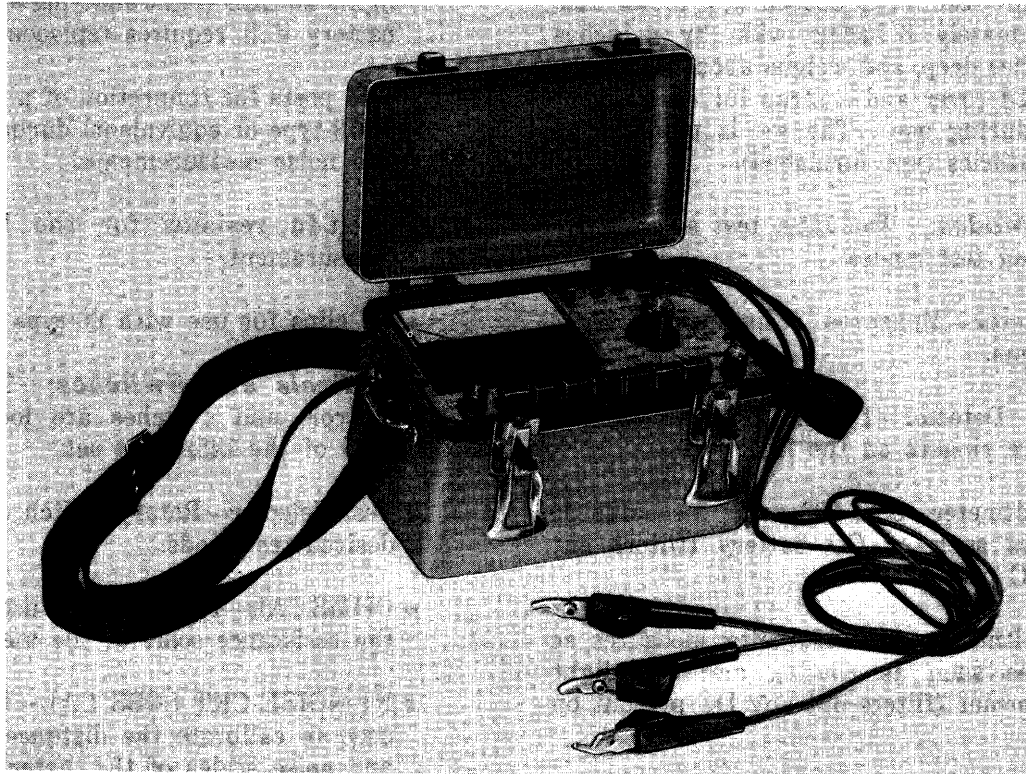

Fig. 1—145A Test Set
1.01 This section provides identification, operation, and maintenance information for the 145A test set (Fig. 1).
- Add new Fig. 1 through 11